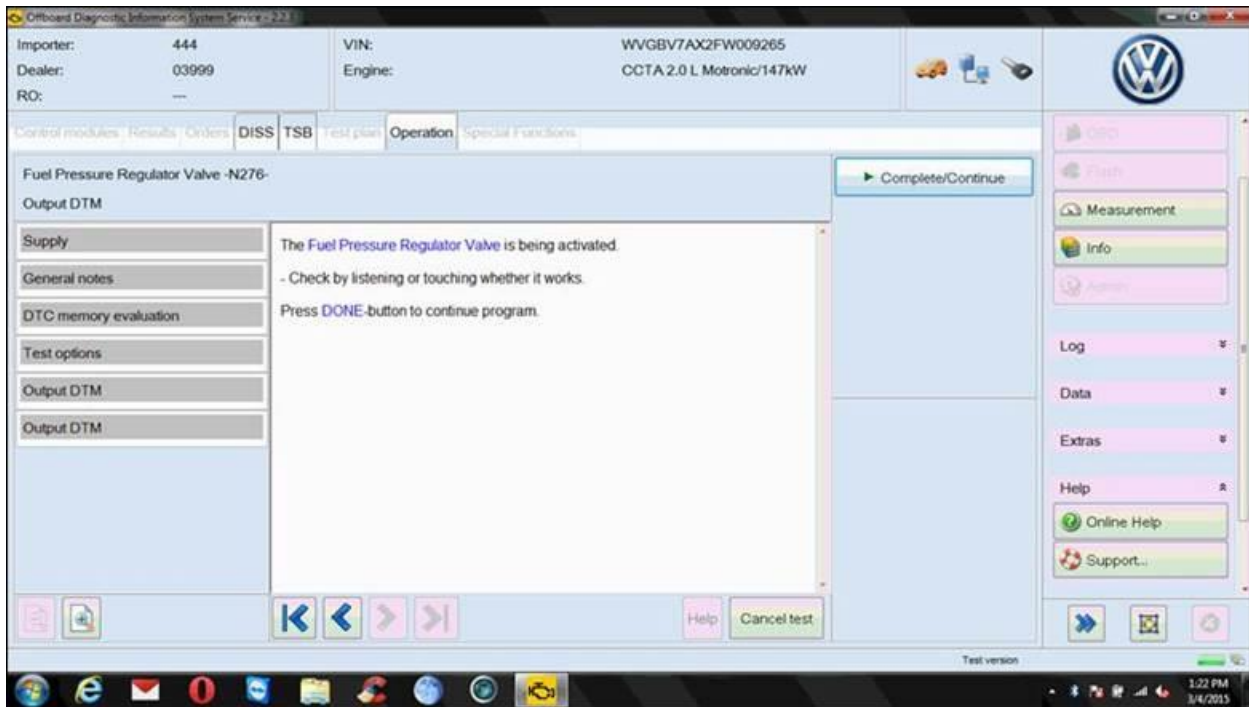

Figure 3
- ODIS will run GFF test plan for the Fuel Pressure Regulator Valve (Figure 3).